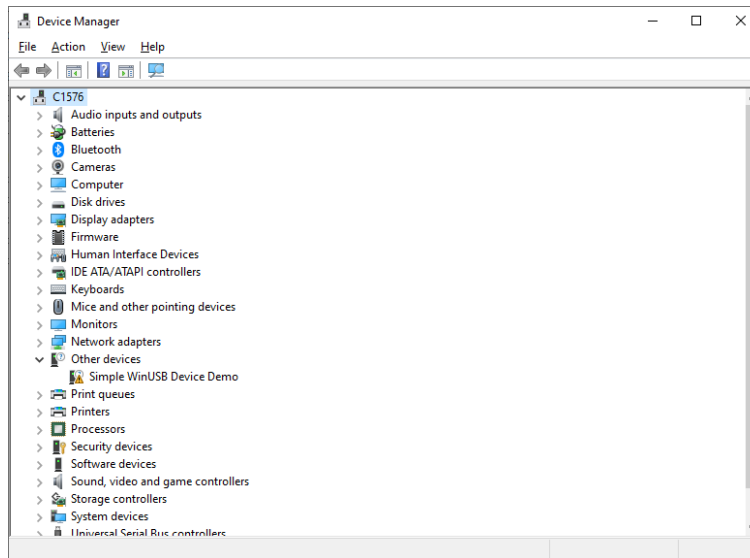

Fig. 11.9: Device Manager window with the USB driver not yet installed.
3. From the "Device Manager" window, right click on the "Simple WinUSB Device Demo" item in the "Other devices" list (see Fig. 11.9) and select the "Upgrade Driver" option.